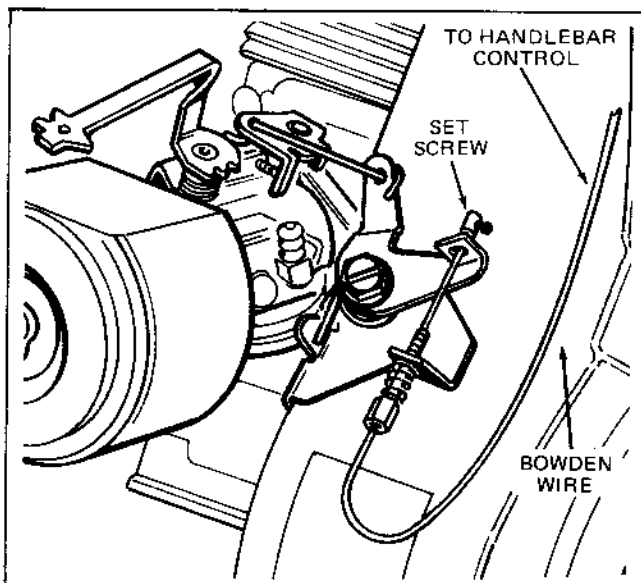

Figure 6-9
- (5) Install the control bracket to the carburetor, but do not tighten screw completely.
- (6) Tighten the setscrew to secure the rod to the coil. The rod should turn each way about half a turn before contacting the choke spring extended end.
- (7) It is important to remember, therefore, that the idle adjustment screw be one full turn from closed and that the rod setscrew be down when connecting the rod and coil.
- (8) Tighten the control bracket screw. Pull the choke rod to see that the choke closes.
T. THROTTLE CONTROL on a model AH8.17 2-cycle engine employed in industrial uses and suitable for mini-bikes, snowmobiles, mini-dune buggies and dune cycles. The control pictured in Figure 6-9 is used currently as a mini-bike control. A bowden wire is run up through the hollow screw with one end attached with a set screw to the control lever. The other end of the bowden wire is attached to the handlebar. When adjusting the wire to the control be sure all the slack is removed before locking the wire in place. There must be tension on the torsion spring so that when the control is released the engine will return to idle. To accomplish this, loosen set screw and turn the handlebar control to the extreme idle position, raise the lever so that it just begins to open the carburetor throttle lever — then tighten the set screw. Check to determine that when handlebar is at the idle position — the engine idles and when handlebar is turned off the idle position it will increase engine speed.